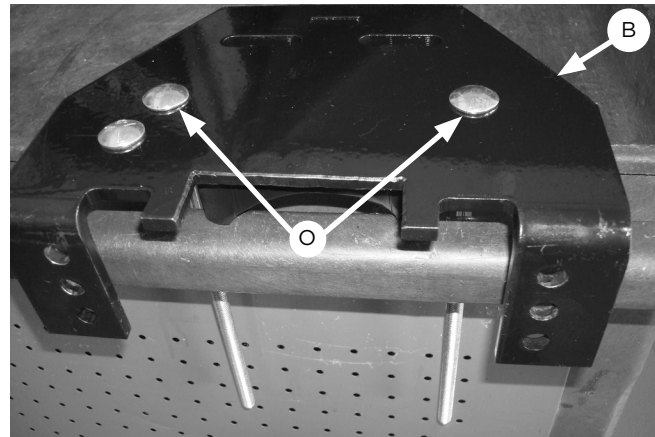

Fig. 11
5. Insert two 3/8"-16 x 10" carriage bolts (O) through the remaining square holes in the lower bracket (B) (Fig. 11).